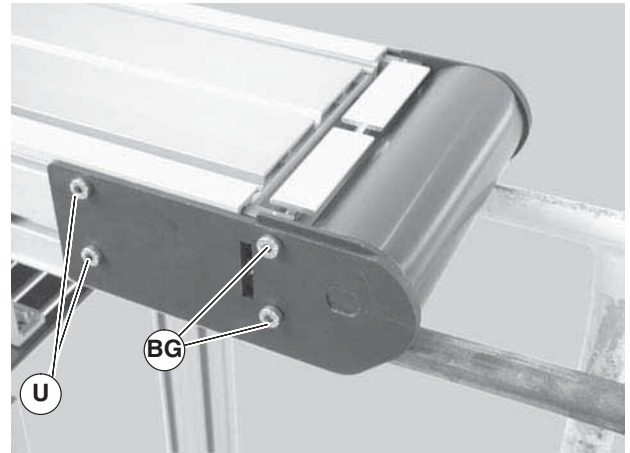

Figure 44
2. On one side of conveyor, loosen the two (2) back fastening screws (Figure 44, item U) and remove two (2) front fastening screws (BG).